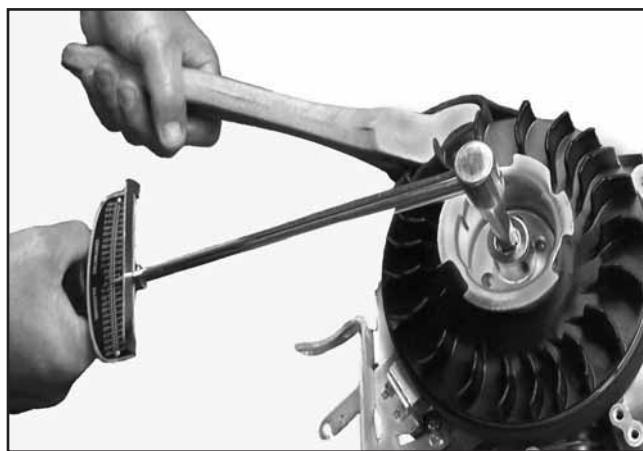

Figure 10-29. Torquing Flywheel Nut.
4. Using a flywheel strap wrench, hold the flywheel still while simultaneously torquing the nut to **51.5 N·m (456 in. lb.)**. See Figure 10-29.